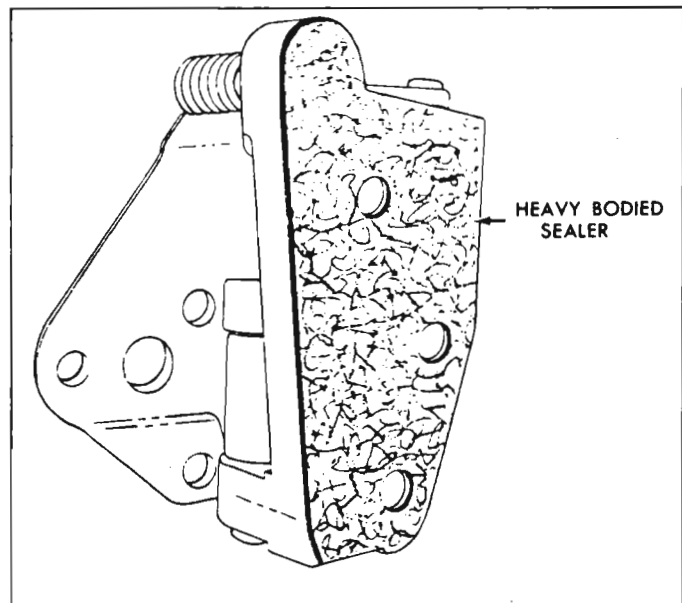

Fig. 10-50—Rear Door Hinge Sealing at Door—Lower Hinge Shown, Upper Typical
1. As an anti-squeak precaution, before installation of door, coat attaching surfaces of hinges with heavy-bodied sealer as indicated in Figure 10-50.